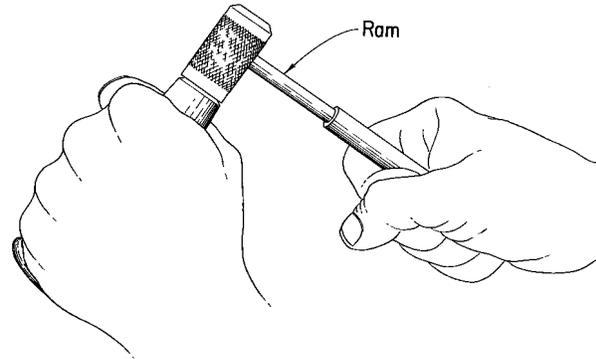

Fig. 7 — Securing Drill Holder
(1) Install drill holder by tightly screwing it to the tool using the ram as a wrench as shown in Fig. 7. Insert masonry drill into holder.